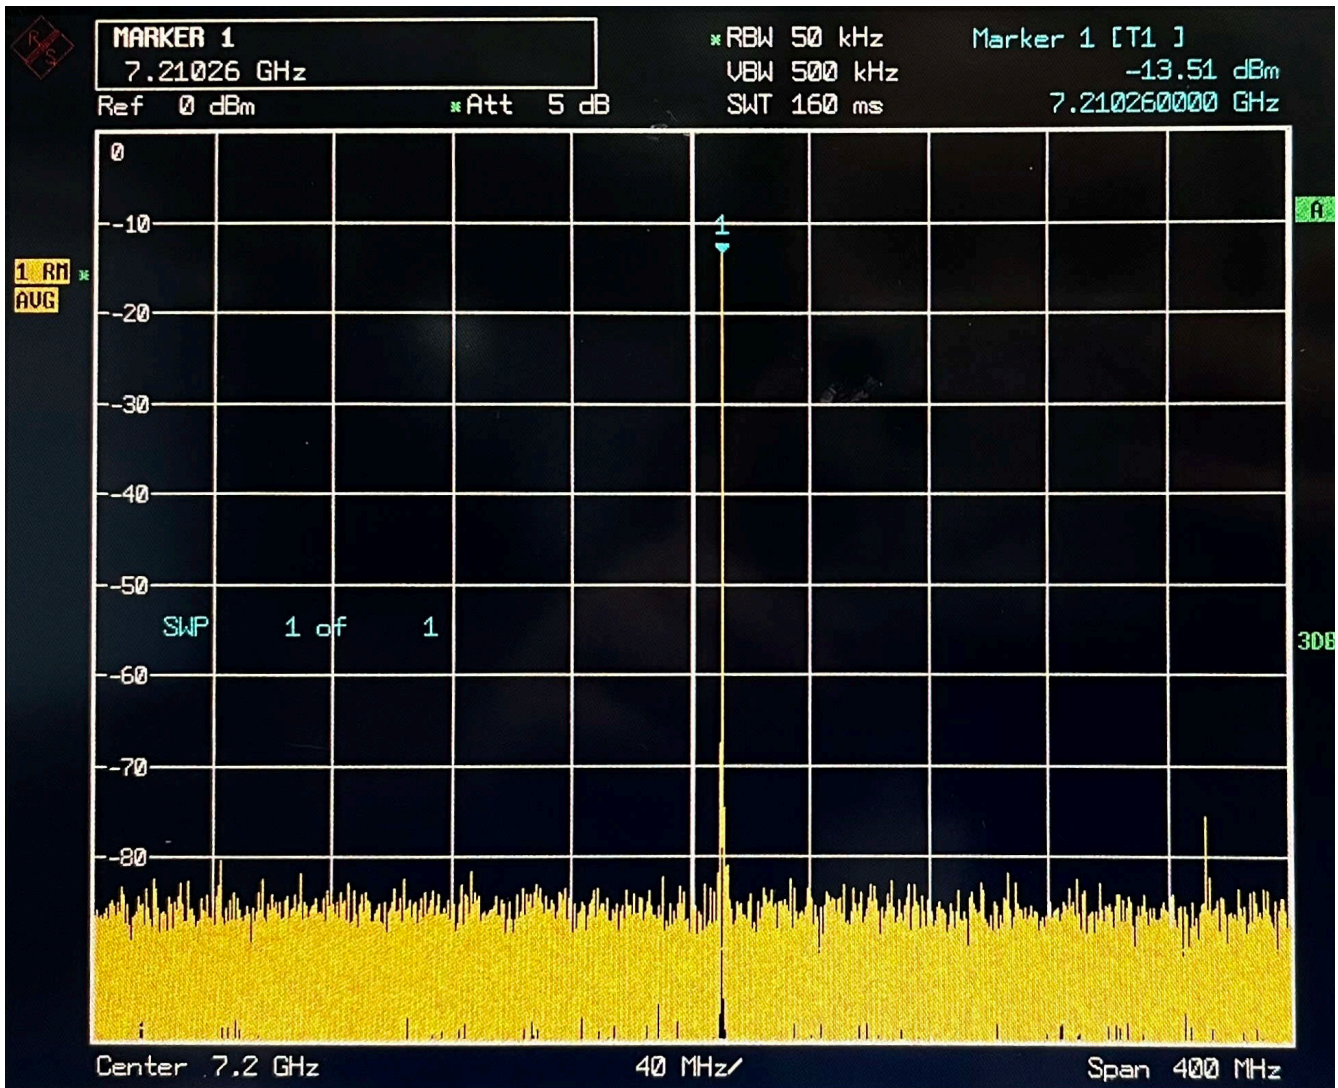

Figure 4-4. Typical TXDAC 10MHz Single Tone Performance at 7.2GHz NCO with -10dBFS Amplitude
2. Highlight portion of applicable code and select F7 to run. See Figure 4-4 for a typical performance measurement.